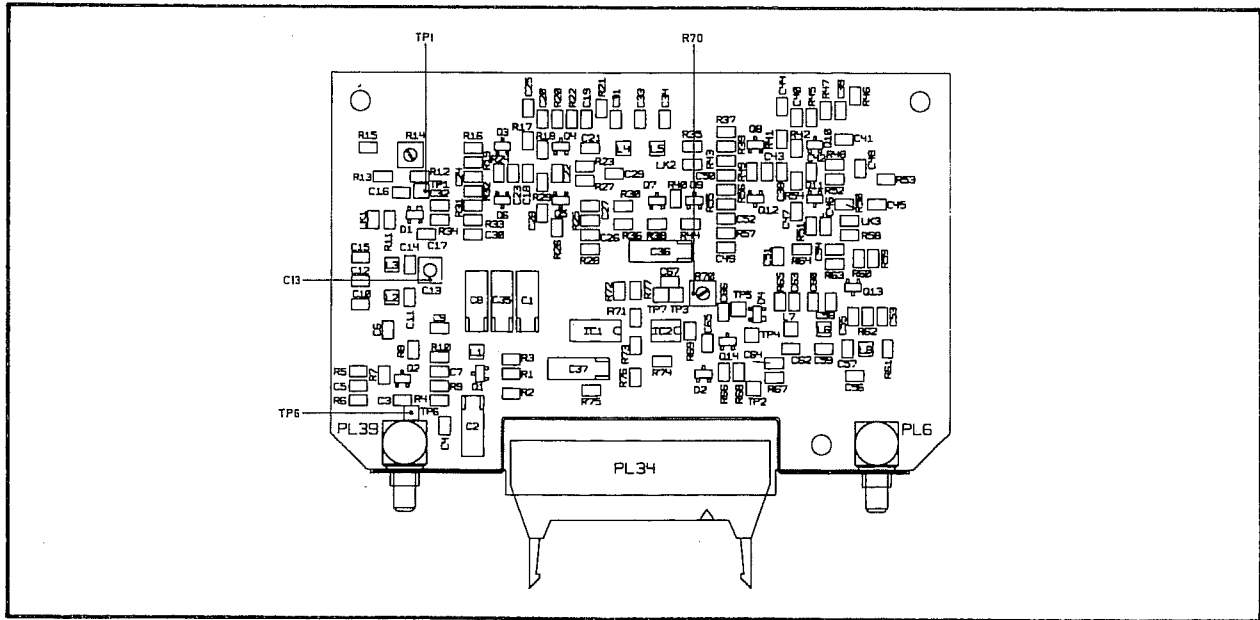

Fig. 7.11 Locations of TP1, TP6, R70 and C13
- (1) The module stack may be left fitted in the 2101 for these tests. Alternatively it can be removed from the 2101 and the IF Processor linked to the unit via the extended ribbon cable. Remove the lid of the IF Processor.
- (2) Using the Digital Multimeter, check that the Sampling Mixer IF bias voltage at TP6 is $+11\text{ V} \pm 1\text{ V}$ relative to ground, see Fig. 7.11.
- (3) Using the Digital Multimeter, check the IF level detector threshold voltage at TP1 is +150 mV +/-3 mV relative to ground. If necessary adjust R70 to achieve this voltage, see Fig. 7.11.
- (5) Set the signal generator to 184 MHz at -6 dBm.
- (6) On the 2101 select SF41 and SF36. This configures the 2101 to monitor and display the status of the IF BW line from the IF Processor module. It is a calibration aid to assist in setting up the 175 MHz low pass filter.
- (7) Adjust C13 slowly until the 2101 display just changes from '0' to '1', see Fig. 7.11. This sets the stopband edge of the 175 MHz low pass filter.
- (8) Set the generator to the frequencies shown in Table 7.4, and check the 2101 display status. This checks the adjustments of the stopband edge of the 175 MHz low pass filter. If the results are incorrect then repeat the procedure in step (7) until the status is correct.